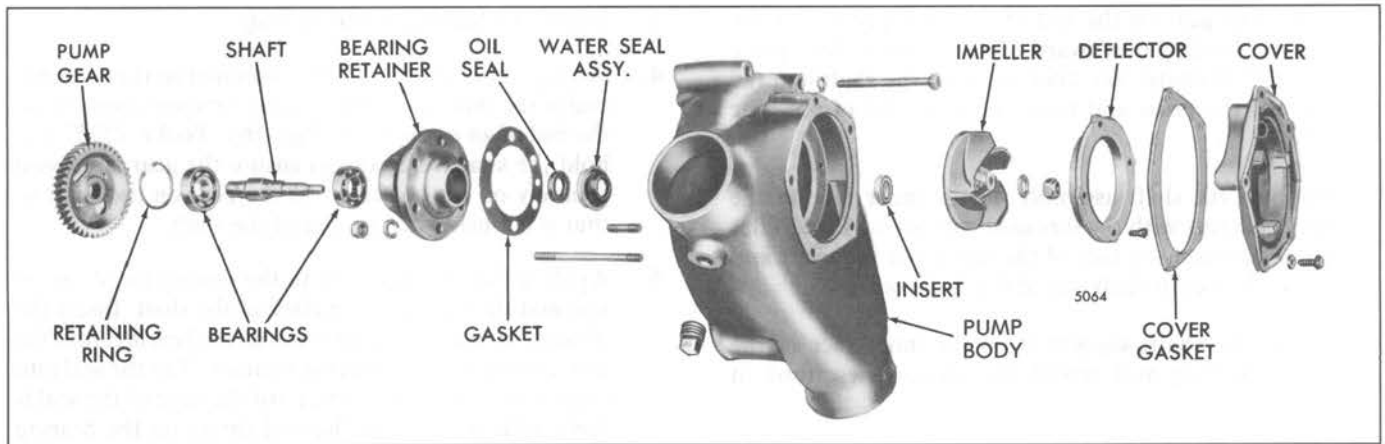

Fig. 15 – Water Pump Details and Relative Location of Parts
1. Remove the pump cover, gasket and deflector ring (Fig. 15).
6. Make sure the mating surfaces of the water seal assembly and the ceramic insert are free of dirt, metal particles and oil film (Fig. 15).